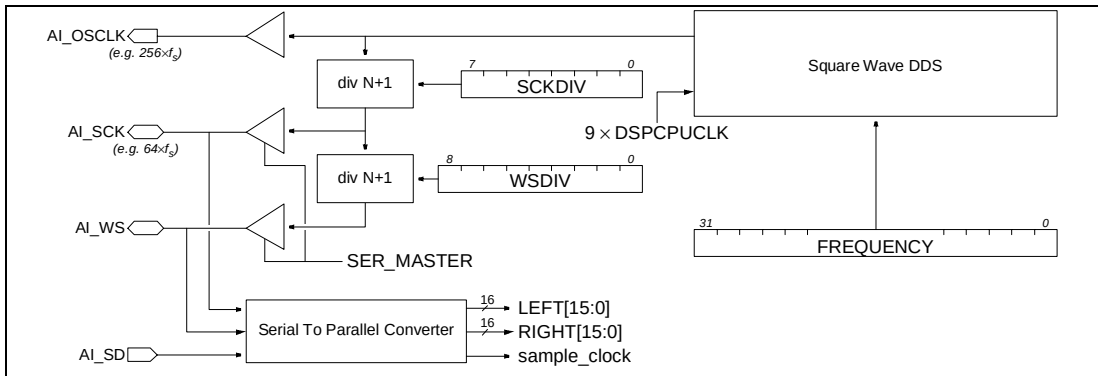

Figure 8-1. AI clock system and I/O interface.
**Figure 8-1** illustrates the different clock capabilities of the AI unit. At the heart of the clock system is a square wave DDS (Direct Digital Synthesizer). The DDS can be programmed to emit frequencies from approx. 1 Hz to 40 MHz with a resolution of better than 0.3 Hz.